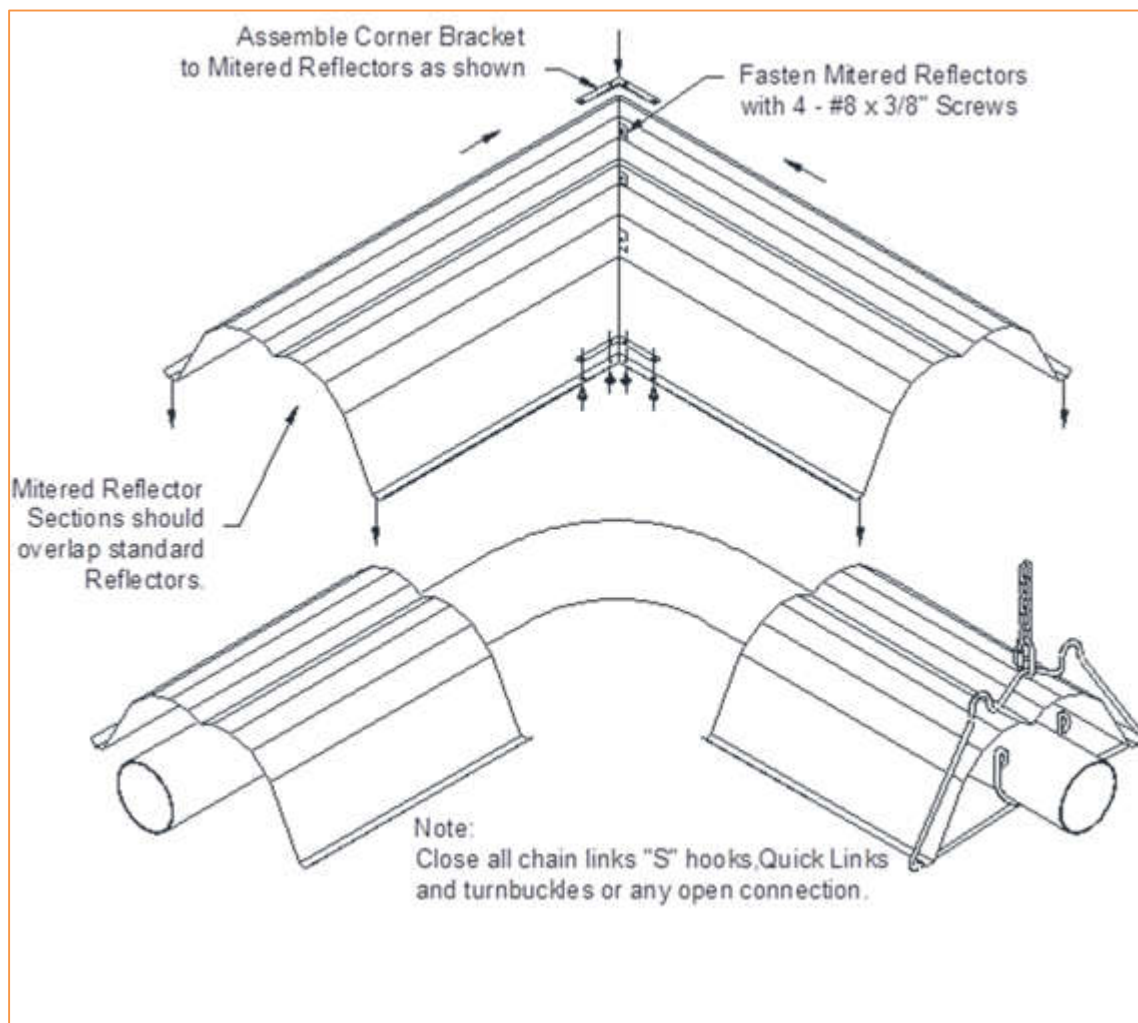

Figure 27: Optional - Corner (Mitered) Reflectors
Corner/Mitered Reflector Kits are used above elbow locations instead of stopping and restarting a Reflector run to accommodate the elbow. Secure the Mitered Reflectors together using the Two (2) Corner Brackets as shown in Figure 27. Also insert #8 x 3/8" screws at each 'tab' location along the top of the Reflectors.